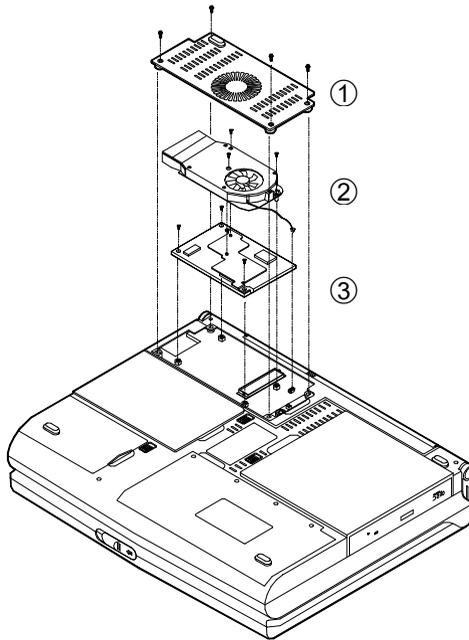

Figure 2-1
- 3** Remove the four screws that hold the CPU cover on the computer and the CPU cover (①).
- 4** Remove the screws that fasten the heat sink and fan on the processor module and thus remove the heat sink and fan (②).
- 5** Carefully lift the processor module (③) from the computer (Figure 2-1).